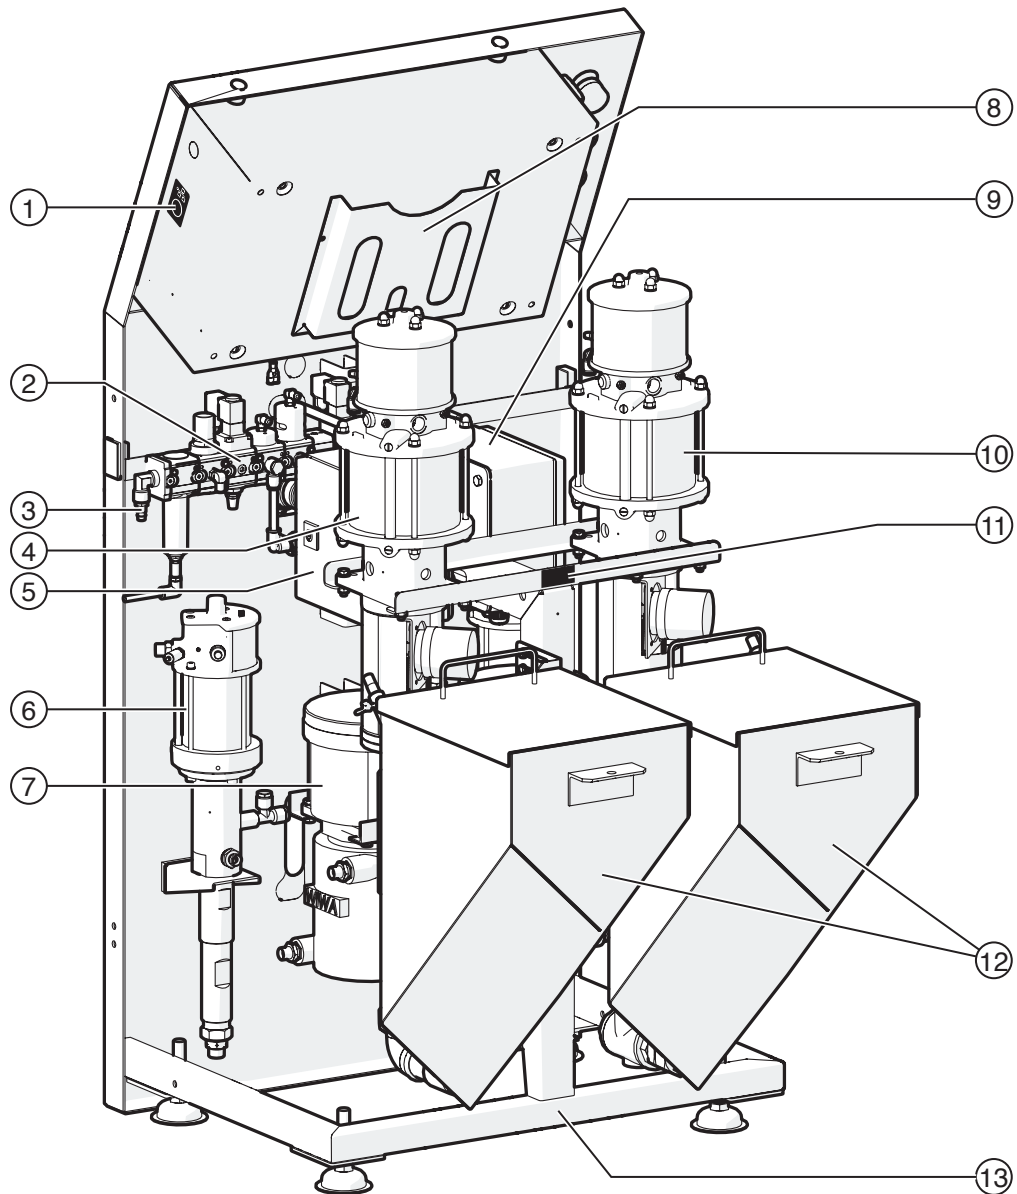

Fig. 8: Rear view of the FLEXIMIX 2 PHOENIX (example)
- the PHOENIX series with a delivery rate of up to 72 cm² per cycle depending on pump combination (see Fig. 8 on page 20).